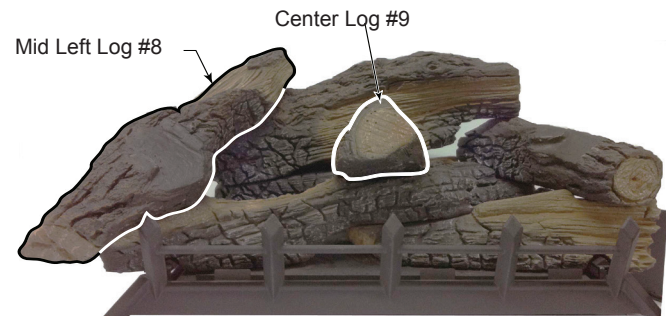

Figure 41
8. Place mid left log (#8) on mid rear log (#7) and front bottom log (#5) by placing notches on bottom of log onto locating blocks on log #7 and log #5. *Figure 41*
9. Place center log (#9) onto front bottom left log (#5) by placing notch on bottom of log #9 onto locating block on log #5. The flat triangle-shaped end of log #9 should be towards front with pointed end of log resting on bottom rear log (#1). *Figure 41*